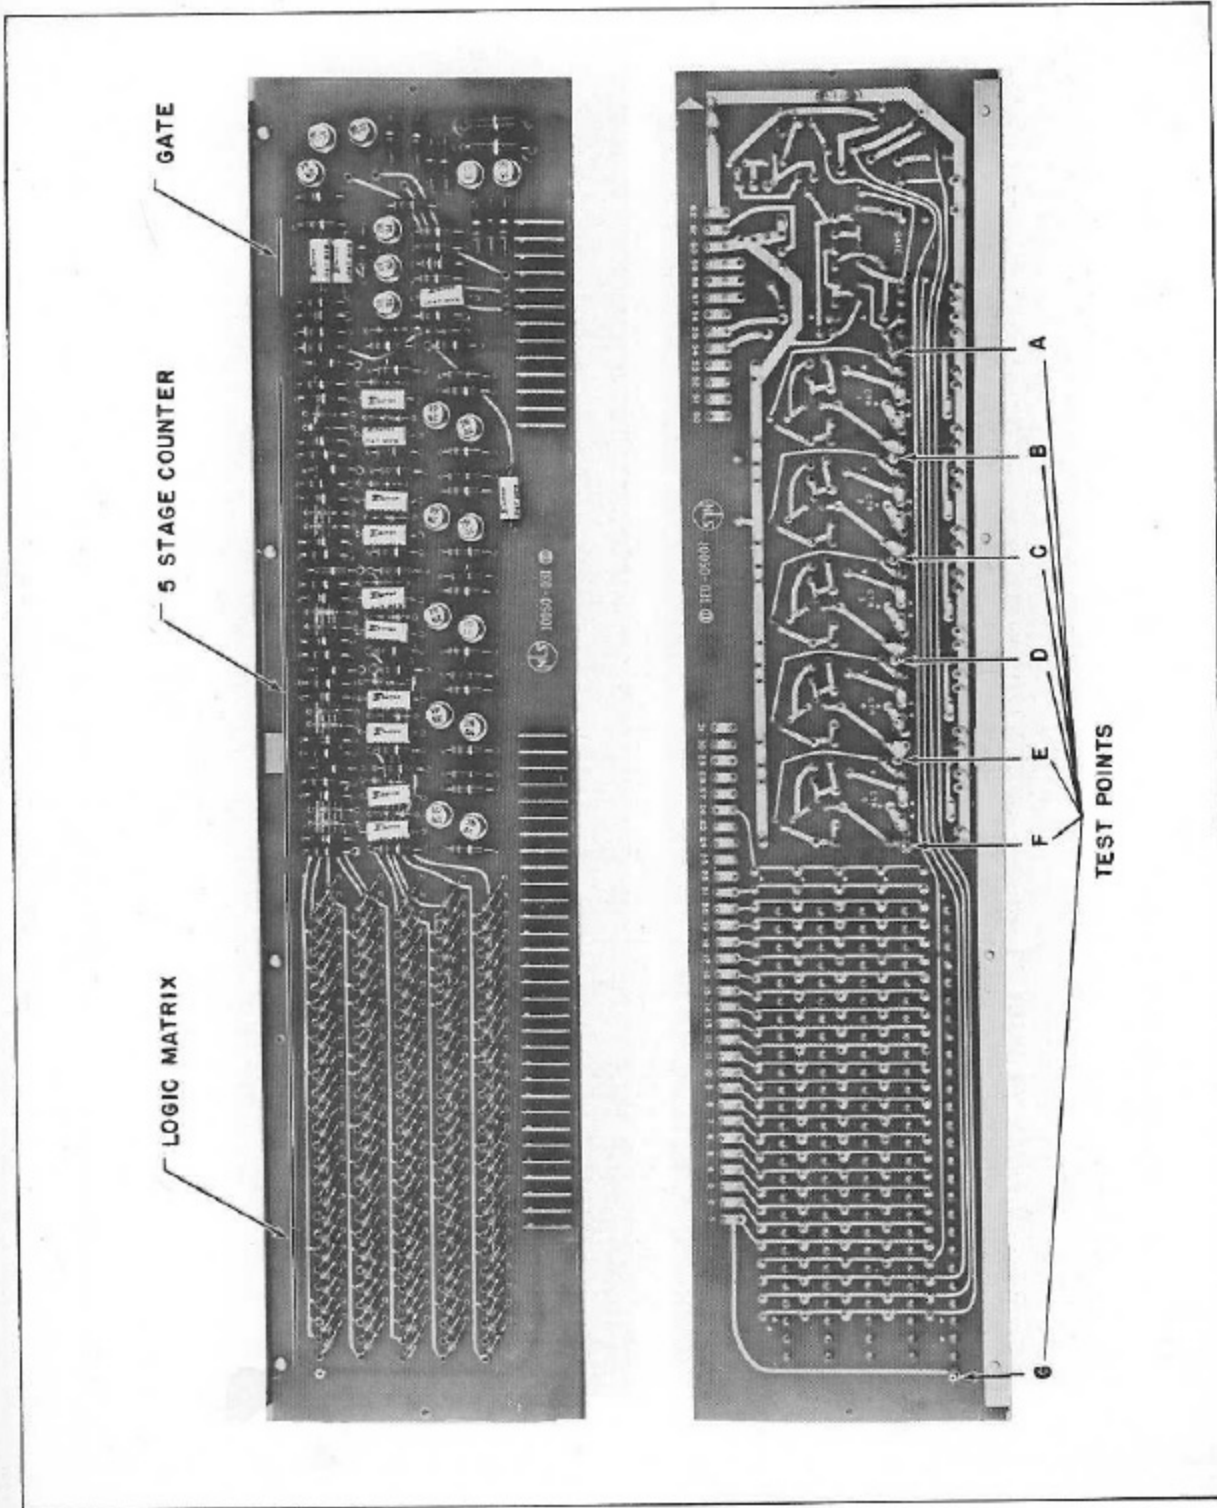

FIGURE 5-6. 5 STAGE COUNTER
33. Set the meter to continuous scan and connect the external trigger of the scope to Test Point "G" (see Figure 5-6) of the five-stage counter board.
43. Set the Mode switch to standby. Connect the scope to the 5-stage counter output (Figure 5-6).